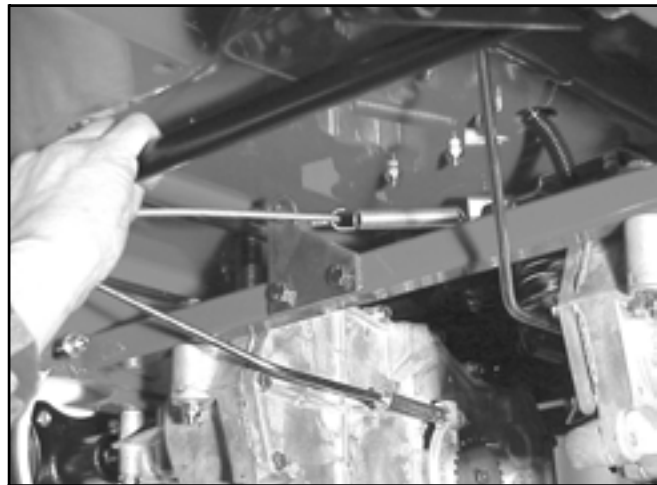

Figure 25
6. Disconnect the front idler spring from the front spring bracket and work the belt off the right transaxle pulley, then off the engine pulley (Figure 25).